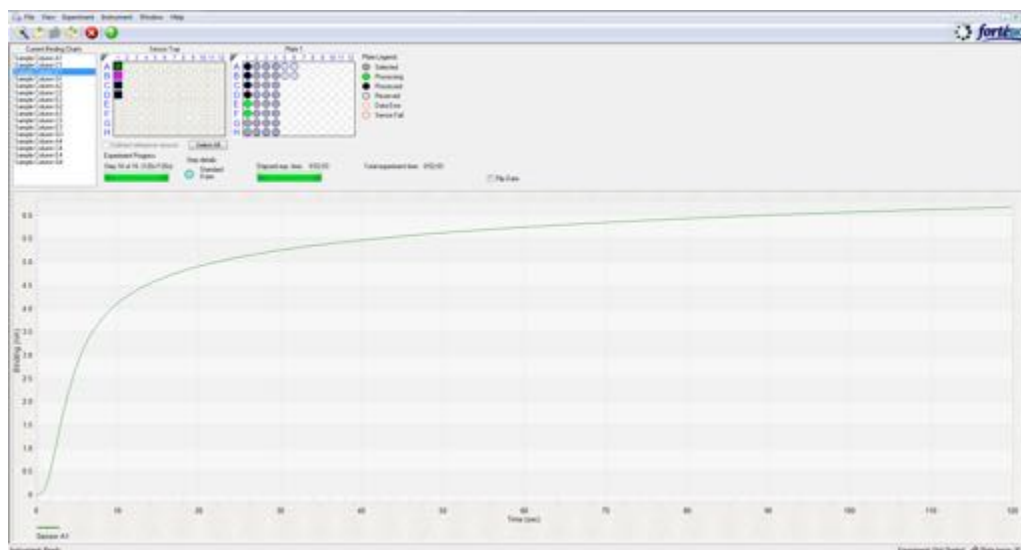

Figure 5-56: Runtime Binding Chart Window
If the **Open runtime charts automatically** check box is selected in the Run Experiment window, the Runtime Binding Charts are automatically displayed when data acquisition starts (see Figure 5-56). The **Runtime Binding Chart** window displays the current step number, time remaining for the current step, (total) elapsed experimental time, and total experiment time.
2. Select a sub-set of sensors for a displayed column under **Sensors to Chart** box (see Figure 5-56).